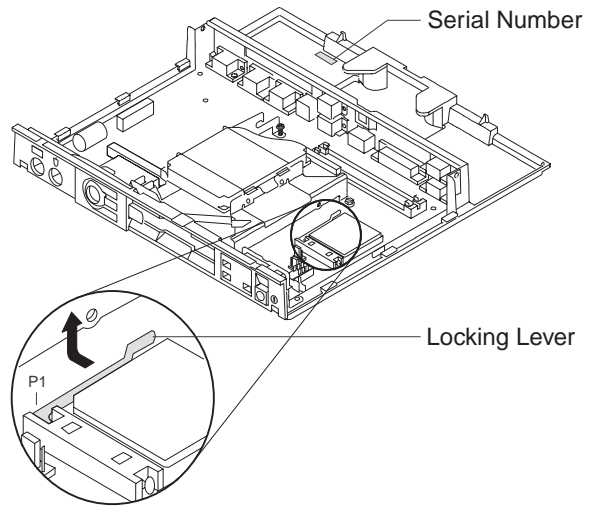

Figure 3-54. PCMCIA Feature
- 3 Disconnect the grounding wire from the PCMCIA feature to the diskette drive bracket screw. See Figure 3-54.